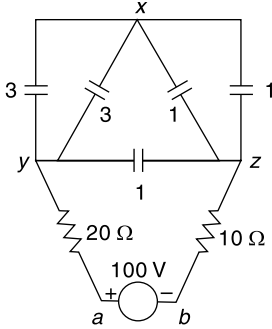
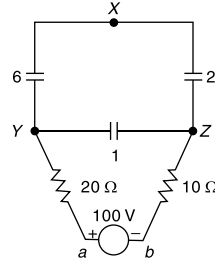
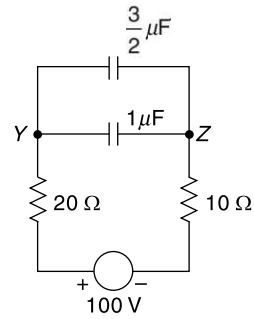

Fig. 2.37 Network of Ex. 2.25
Fig. 2.37a Reduced network of Fig. 2.37
Fig. 2.37b Final reduced network of Fig. 2.37a
2.25 In Fig. 2.37, find the p.d. between (x-y) and (x-z) in steady state. Figures shown against capacitances are in μF .
Figure 2.37a shows the reduced network where both $3\ \mu\text{F}$ capacitors at the left hand side are replaced by their equivalent capacitance as well as two $1\ \mu\text{F}$ capacitors at the right hand side of Fig. 2.37 are also replaced by their equivalent capacitance.
Further reduction of the network (shown in Fig. 2.37a) is possible (Fig. 2.37b).
If we go back to the capacitor configuration of Fig. 2.37a, we find this $150\ \mu\text{C}$ charge will be retained by capacitors $6\ \mu\text{F}$ and $2\ \mu\text{F}$. Thus, the p.d. between x and y is actually the drop across the $6\ \mu\text{F}$ capacitor.